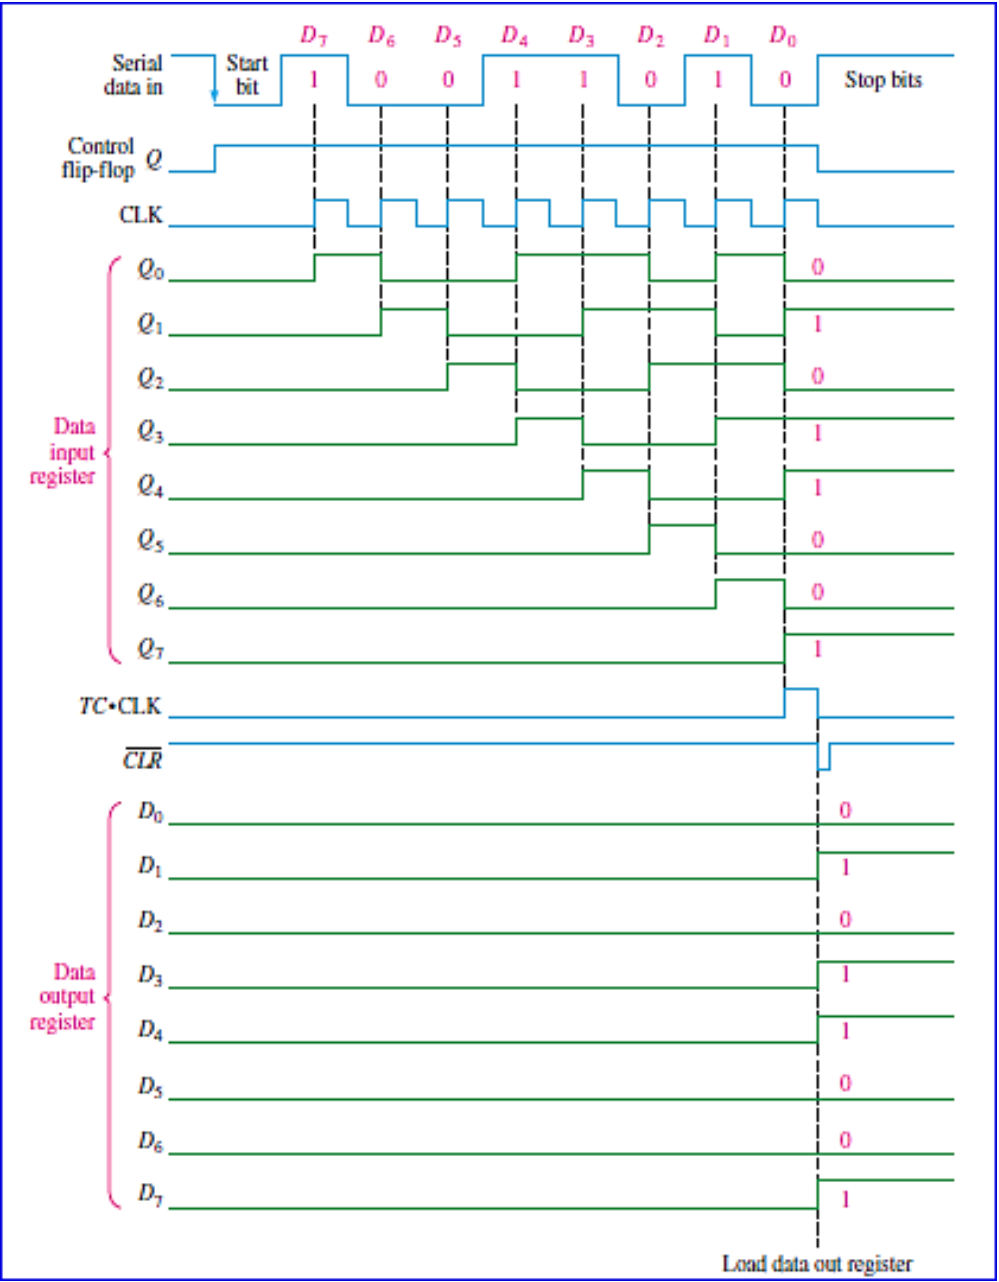

FIGURE 33 Timing diagram illustrating the operation of the serial-to-parallel data converter in Figure 31.
- The timing diagram in Figure 33 illustrates the following basic operation: The eight data bits (D_7 through D_0) are serially shifted into the data-input register. Shortly after th
- eighth clock pulse, the terminal count (TC) goes from LOW to HIGH, indicating the counter is at the last state. This rising edge is AND ed with the clock pulse, which is still HIGH, producing a rising edge at TC # CLK. This parallel loads the eight data bits from the data input shift register to the data-output register. A short time later, the clock pulse goes LOW and this HIGH-to-LOW transition triggers the one-shot, which produces a short-duration pulse to clear the counter and reset the control flip-flop and thus disable the clock generator. The system is now ready for the next group of eleven bits, and it waits for the next HIGH-to-LOW transition at the beginning of the start bit. By reversing the process just stated, parallel-to-serial data conversion can be accomplished. Since the serial data format must be produced, start and stop bits must be added to the sequence.